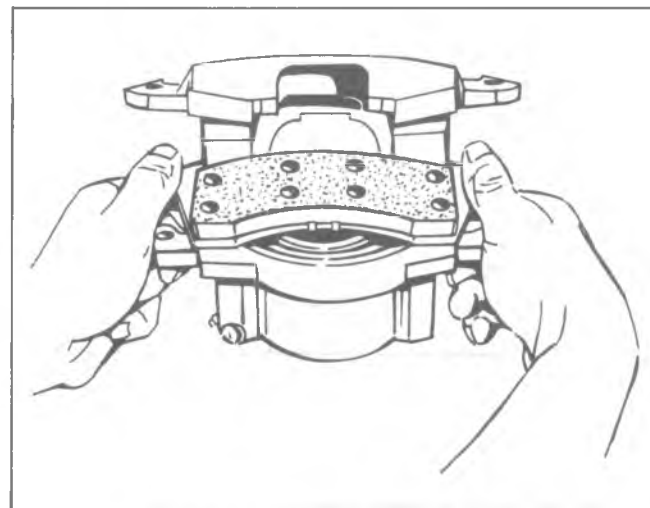

Fig. 5-27-Installing Inboard Shoe
4. Position the inboard shoe and lining assembly (with spring attached) in the caliper so that the ear end of the shoe and lining is down and the bottom end up at an angle with the spring resting on the piston I.D. (fig. 5-27). Press down